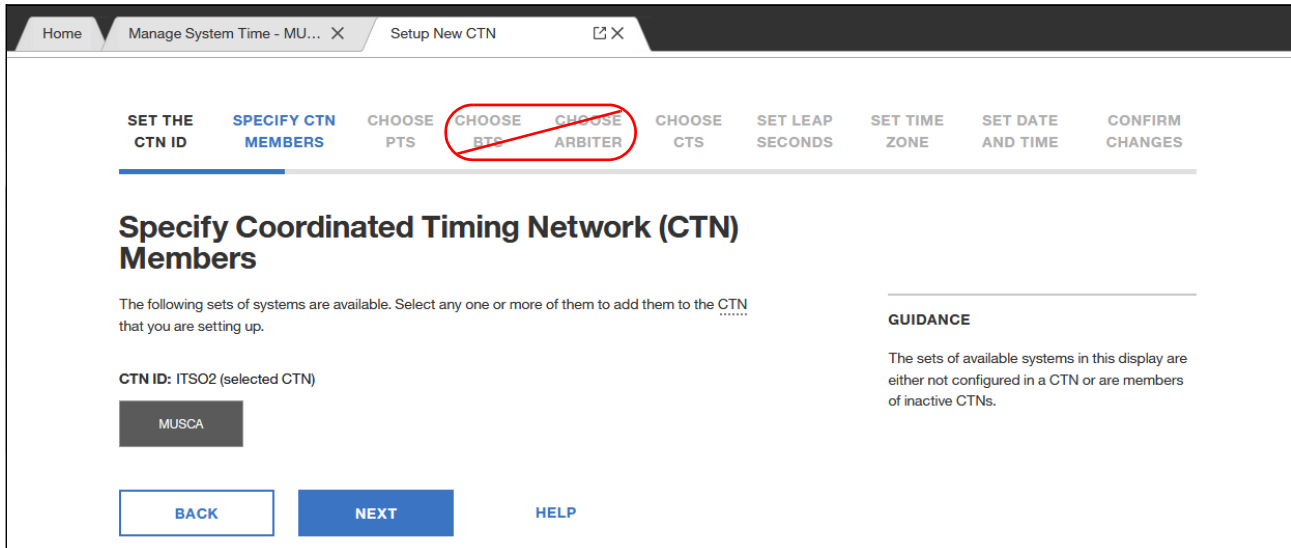

Figure 16-12 Choosing CTN member
- In our example, we specify our CPC as a member in the CTN, as shown in Figure 16-12 on page 398. Click **NEXT**.